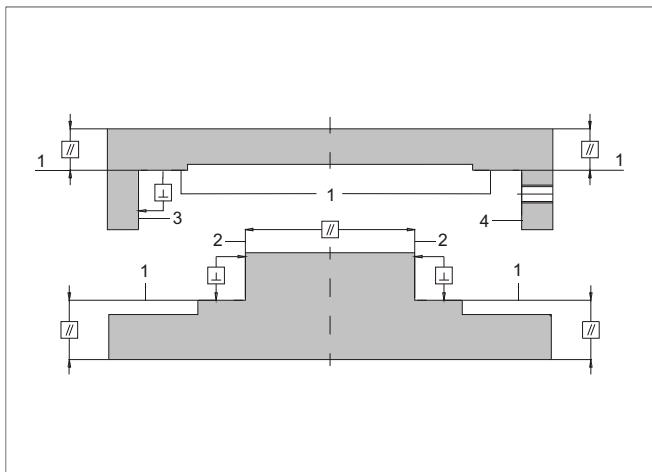

Figure 1
The tolerances of the mounting surfaces Figure 1 (1), (2) and (3) must correspond to the production tolerances of the longitudinal guides. In order to achieve the required accuracy, these surfaces must be finely milled or ground.
- If possible, all fastening holes in the support surfaces, Figure 1 (1), should be drilled in accordance with the fastening holes of the longitudinal guides. This enables possible tolerance deviations to be compensated for by way of the drilling gauge.